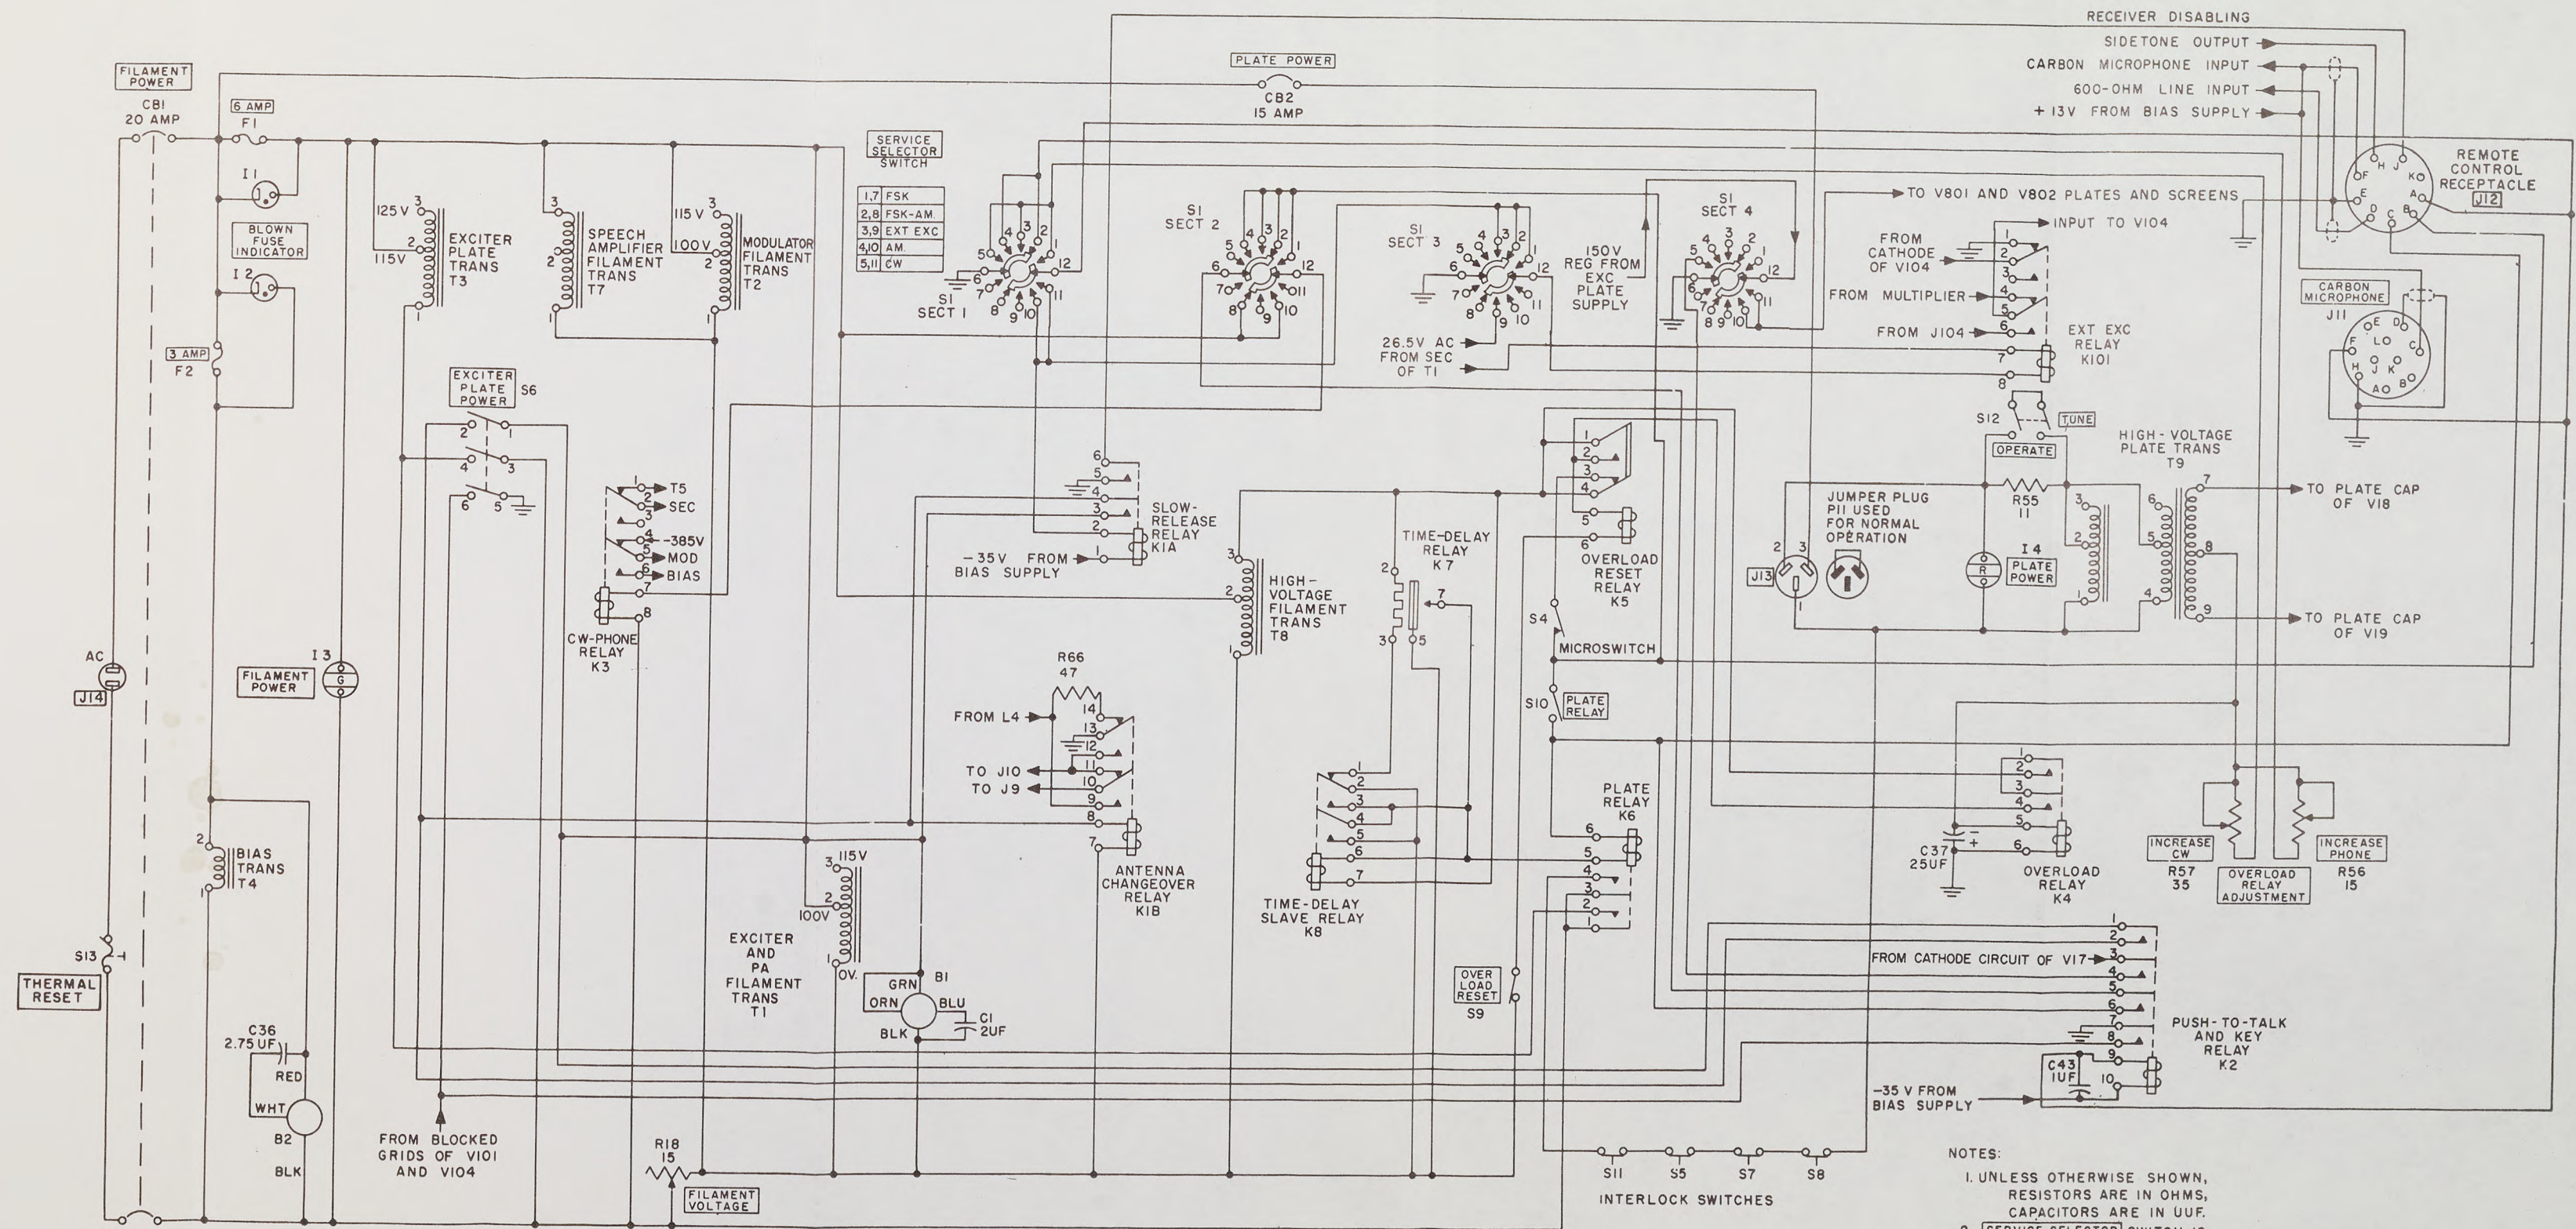

Figure 28. Primary power distribution and control circuits, basic model transmitters.
b. Switch S6. Switch S6 is the EXCITER PLATE POWER switch in the basic model transmitter and the KEYING switch in lettered-model transmitters. Switch S6 is closed when it is necessary to operate the stages in the exciter strip (V801, V802, V101, V102, V103, and V104) continuously with or without the application of high voltage. This is necessary in FSK, FSK-AM, and EXT EXC operation, because each of these modes uses an uninterrupted RF carrier or a carrier which is keyed externally. The switch normally is left open (EXCITER PLATE POWER switch in OFF position; KEYING switch in NORMAL position) for CW and AM operation. When S6 is closed, contacts 6 and 5 (contacts 6 and 4 in A model transmitters (fig. 29); contacts 3 and 4 in B and C model transmitters (fig. 30)) remove the blocking bias from the grids of V101 and V104. In the basic model transmitter only (fig. 28), contacts 4 and 3 of S6 close the ac input circuit to exciter plate transformer T3, thereby energizing the plate and screen supply for the exciter. Transformer T3 is energized also through contacts 1 and 2 of plate relay K6, which close simultaneously with the application of high voltage as described in *d* below. In all lettered-model transmitters, the exciter power supply is turned on by operation of FILAMENT POWER circuit breaker CB1 (*a* above). With the blocking bias removed by closing S6, the exciter section can be operated *without* applying high voltage to the transmitter. This condition of operation is useful for servicing; it also permits zero-beating the carrier with the receiver or frequency meter for calibration of the transmitter. Contacts 1 and 2 of S6 (contacts 1 and 3 in A model transmitter) insure that the antenna changeover relay (par. 8*b*) will be energized whenever the exciter is made operative in the manner described above; this safety feature insures that the antenna is connected when the transmitter is operative.
(1) In A model transmitters, terminal numbers of K6, K7, and K8 are different from those in the other models in accordance with the chart below. The discussion in (2) below uses terminal numbers of the basic model transmitter relays.
- (1) *Basic model transmitter* (fig. 28). Antenna changeover relay K1B connects the RF output of the transmitter to the transmitting antenna during operation. The output is connected from the pa stage through normally open contacts 9 and 10 of K1B. Contact 10 is connected to the internal side of the RF OUTPUT jack, and the antenna is connected to the external side by a coaxial connector. Antenna relay K1B is energized by 115 volts ac during key-down periods of transmission. Until K1B is energized, the RF output line is grounded through R66 and contacts 14 and 13. Antenna relay K1B is energized through contacts 1 and 2 of push-to-talk and key relay (for AM or CW operation) or through contacts 1 and 2 of the EXCITER PLATE POWER switch (for FSK, FSK-AM, or EXT EXC operation). Contacts 3 and 4 of slow release relay K1A, which are also in series with the coil of K1B, are discussed in *g*(1) below.
(1) *General.* Keying the transmitter involves grounding the blocked grids of second buffer and first amplifier tube V101 and ipa tube V104. In lettered-model transmitters, and grid circuit of side-tone oscillator V17 is also blocked-grid keyed. Keying is accomplished by depressing the push-to-talk switch on the carbon microphone (AM operation) or by closing the hand key (CW operation), or by closing switch S6 (EXCITER PLATE POWER switch in UP position in basic model; KEYING switch to CONTINUOUS in lettered-model transmitters) during EXT EXC, FSK, or FSK-AM. operation. A slow release circuit is incorporated to keep the power amplifier tube loaded, by maintaining the antenna changeover relay in the energized condition, until all radiation has ceased after the hand key or microphone button is released. In the basic model transmitter, slow release relay K1A (fig. 28) and push-to-talk and key relay K2 are used. In the lettered-model transmitters, slow
(2) *Basic model transmitter (fig. 28).*